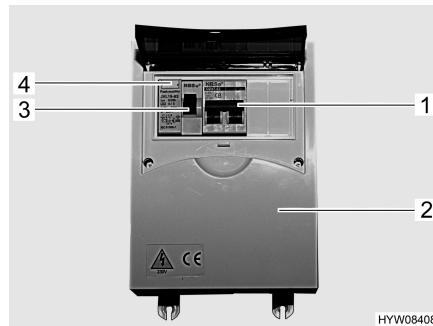

Fig. 47 240 V fuse box with safety cut-out and FI-switch
- Switch off the safety cut-out (Fig. 47,1) in the fuse box (Fig. 47,2).
- When the vehicle is connected to the 240 V supply, press the test button (Fig. 47,4) of the fault current protection switch (FI-switch) (Fig. 47,3) in the fuse box (Fig. 47,2). The fault current protection switch must trip.
- Switch the fault current protection switch (Fig. 47,3) back on again.